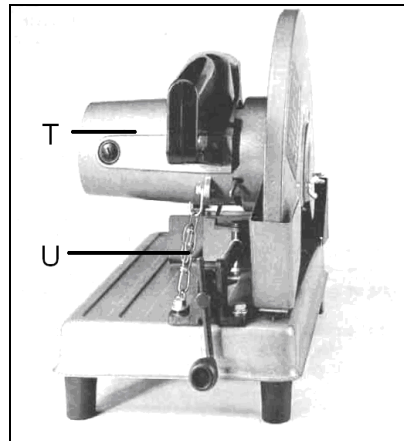

Fig 2
Unlock the chain (U, Fig 2) and allow the cutting head (T) to rise slowly.